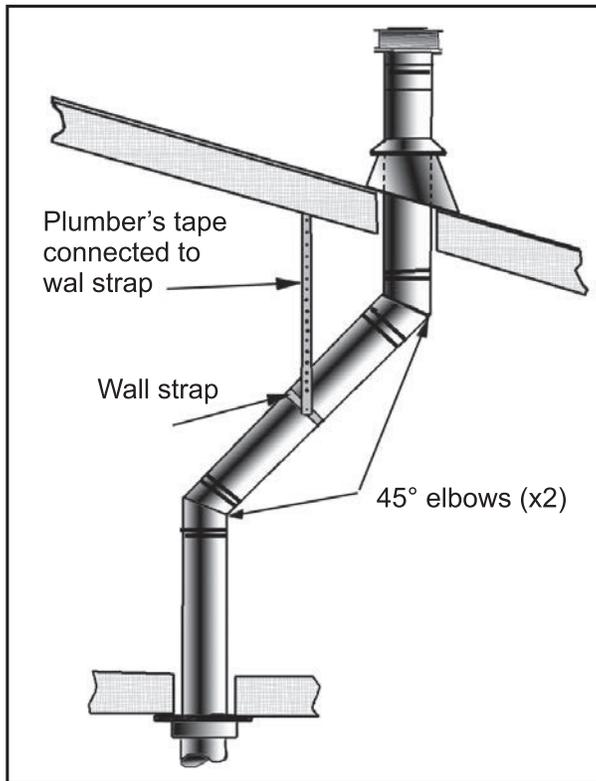

Fig. 31 Use of Wall Straps
1. If an offset is necessary in the attic to avoid obstructions, it is important to support the vent pipe every 3' (914 mm) to avoid excessive stress on the elbows, and possible separation. Wall straps are available for this purpose (**Fig. 31**).